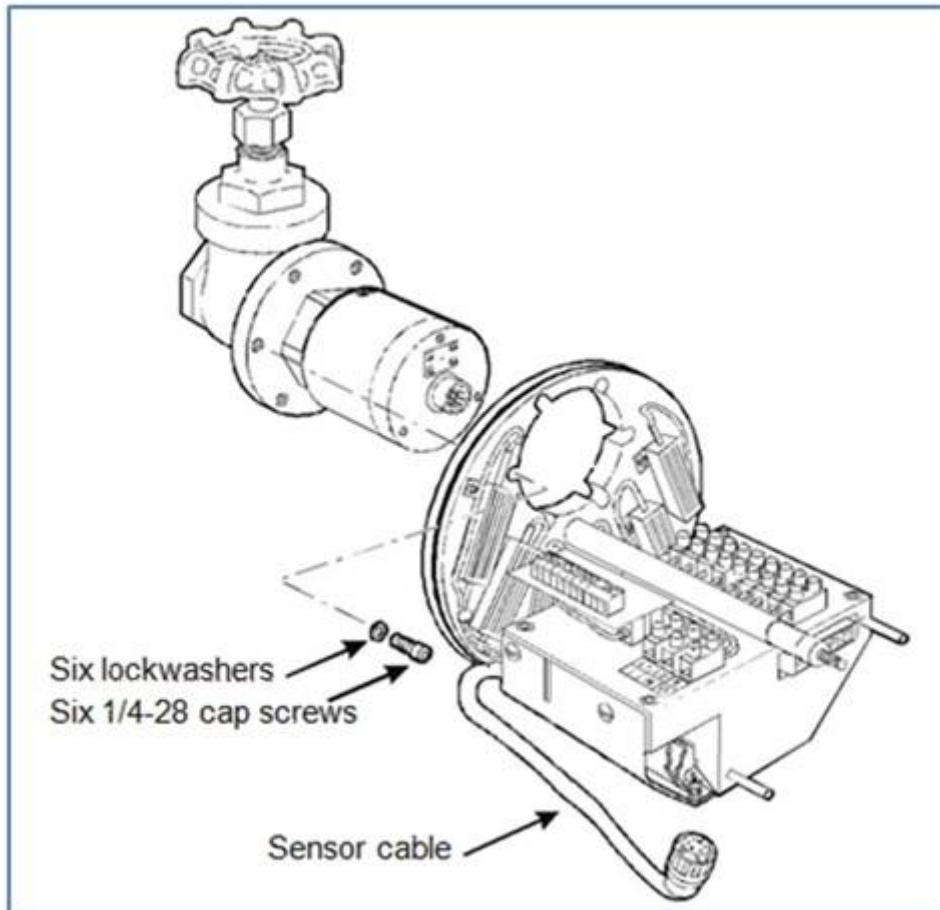

Figure 7-8: Fastening the Heating Plate to the Brass Adapter
1. Using the supplied 3/16-in Allen key, fasten the H201Ti's heating plate to the brass adaptor with the six 1/4-28 cap screws. See Figure 7-8 below.